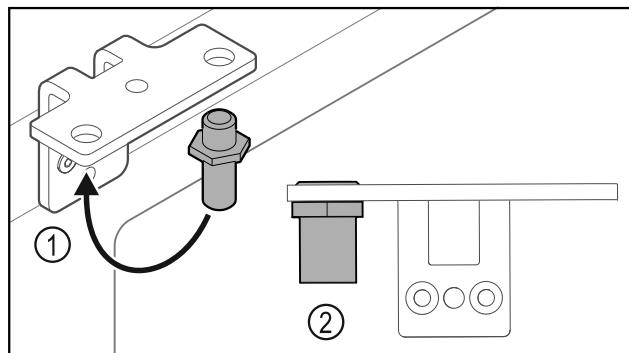

Fig. 21
- Put the pin back into the hinge Fig. 21 (1).
- Tighten the pin Fig. 21 (2) to a **torque of 12 Nm**.